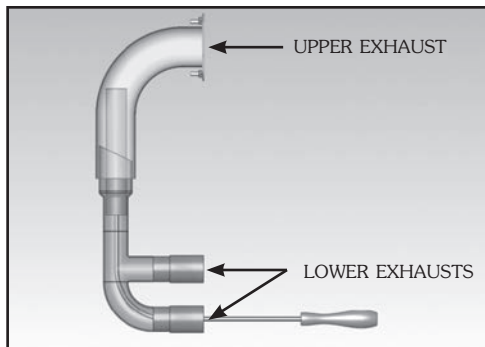

Figure 1 Exhaust tube only - unit removed for clarity
1. Insert the brush into the two lower exhaust openings (one at a time) as far as possible Figure 1.